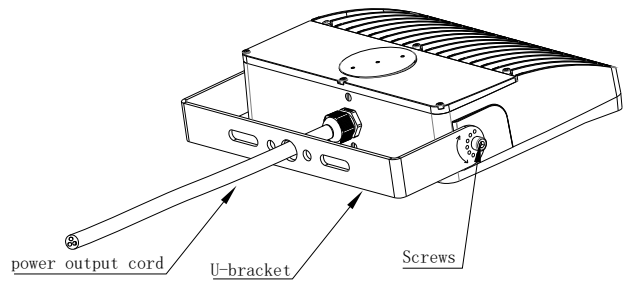

**FIG.3**
- 3.Slide down the fixture into the arm base and screw the two safety screws(FIG3)